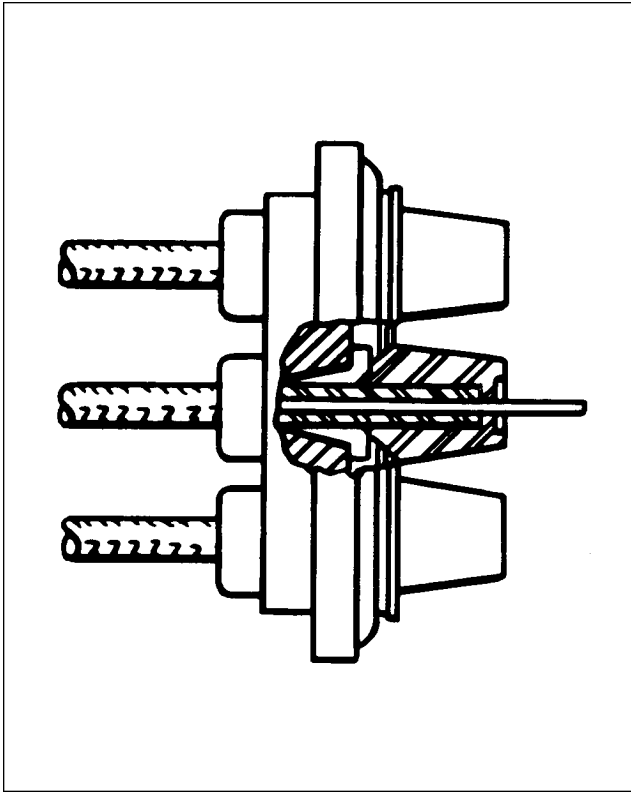
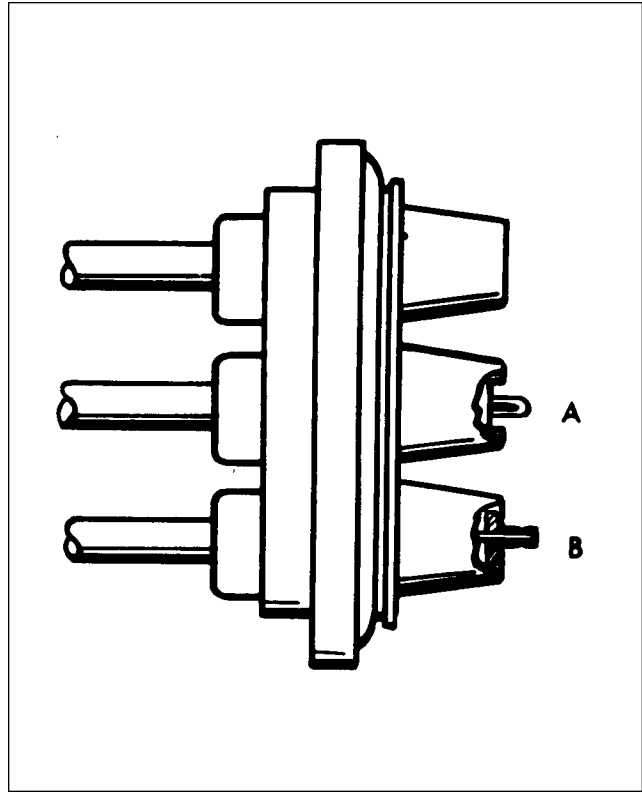

Figure 8-26. Lead Assembly Installed in Grommet
Figure 8-27. Wire Doubled Over
15. Cut the wire 3/8 inch from the top of the grommet outlet. (See Figure 8-26.) Double the wire over as shown in A of Figure 8-27. Slide the eyelet over the doubled wire until it is firmly seated in the recess of the grommet outlet.
16. Using a suitable crimping tool or equivalent, crimp the eyelet to the wire. Approximately 1/32 inch of wire should extend from the end of the eyelet after crimping. See B of Figure 8-27.